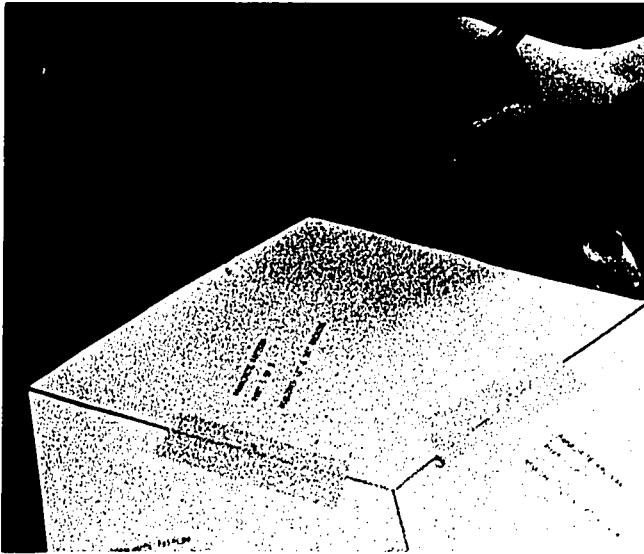

Fig. 4E-5. Marking Plastic Film
- newspapers underneath to protect the table. See Fig. 4E-4.